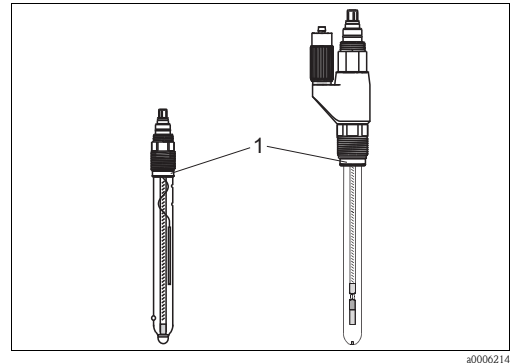

Fig. 20: Sensor installation
1. Remove the protection cap from the sensor. Make sure the sensor shaft is fitted with the O-ring and the thrust collar (Fig. 20).